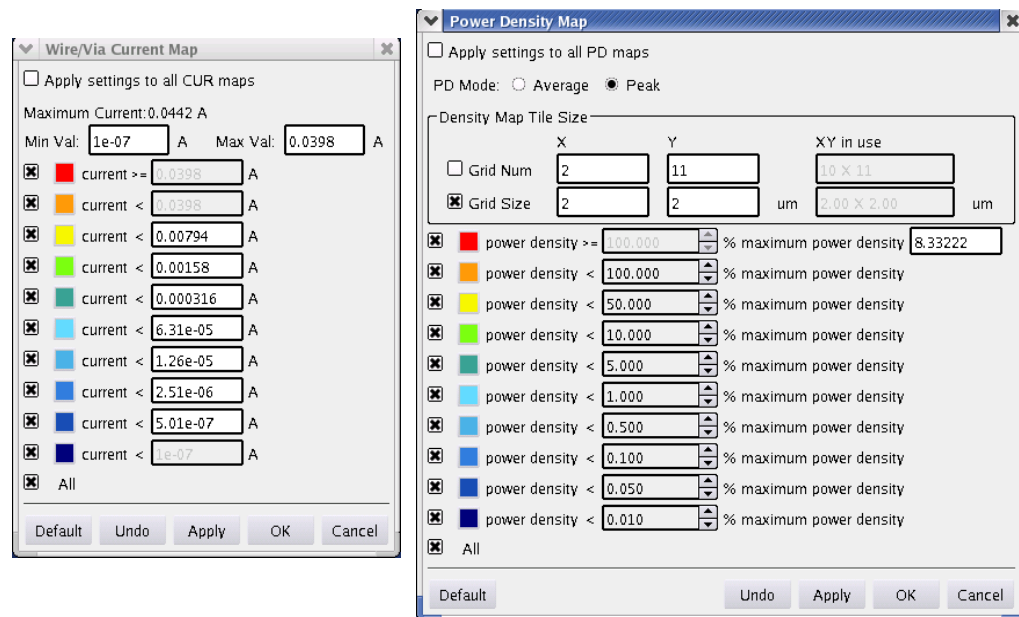

Figure D-7 Current and power density color map dialogs
- “Set Color Range” (center button in row) - displays a Color Map dialog box based on the ‘View Results’ or menu selection. Figure D-7 shows examples of color maps for current and power density.